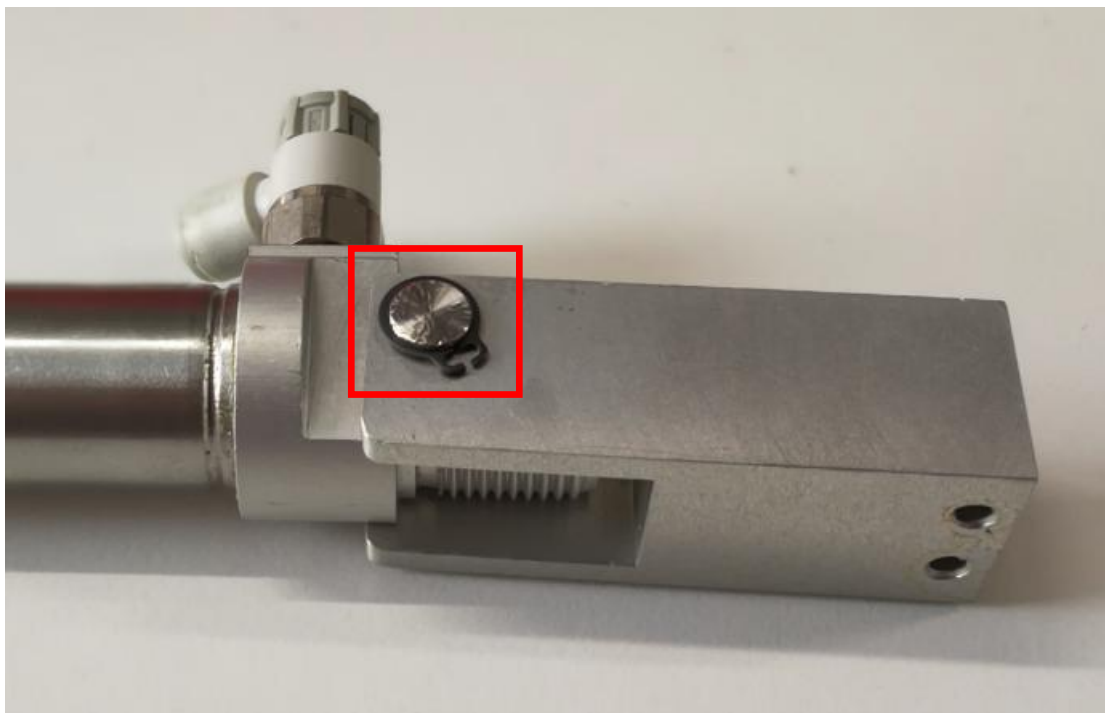
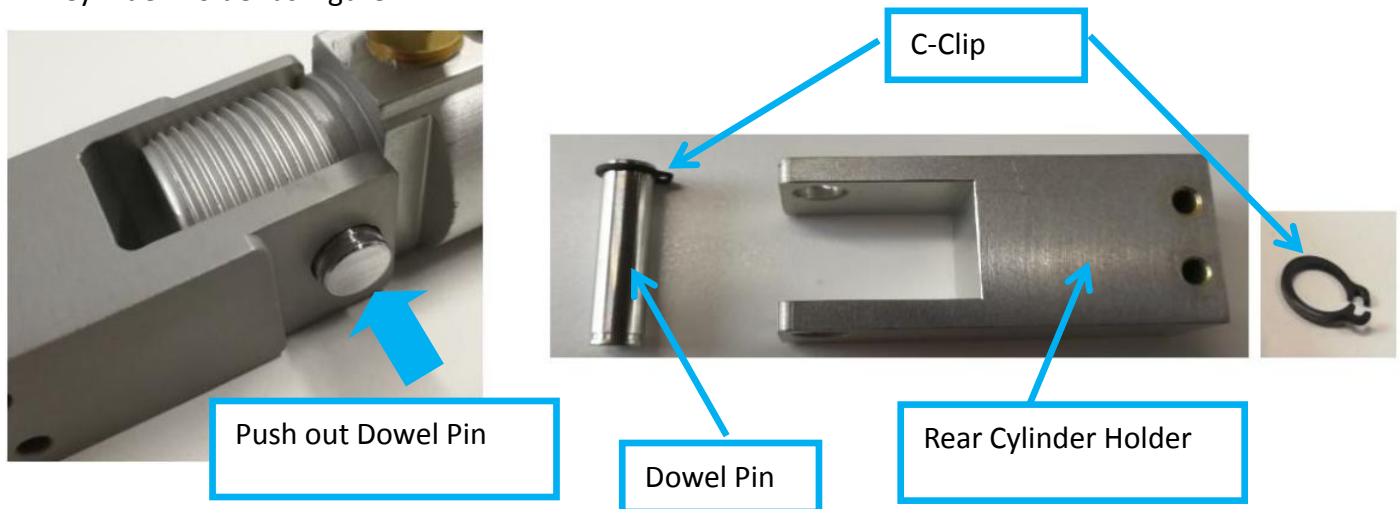

Figure 13
Figure 14
18. Gently push out the Dowel Pin from Rear Cylinder Holder as Figure 13. Remove dowel pin & Rear Cylinder Holder as Figure 14